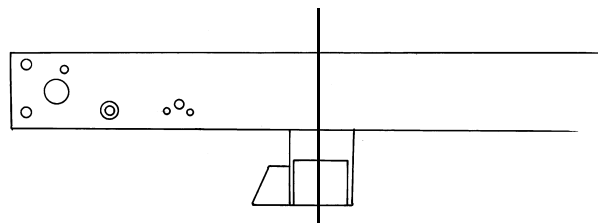

Figure 4
6. Trial fit the new crossmember up into the rails centering it on the scribed spindle centerline. See figure 4. If it does not quite fit into the frame, slightly grind the upright ends of the crossmember until you can get it into place. Make sure that the crossmember is fully seated on the underside of the frame. Tack weld in place, double check the location and weld in place, welding all around both ends, top, sides, and the underside of the bottom of the frame.